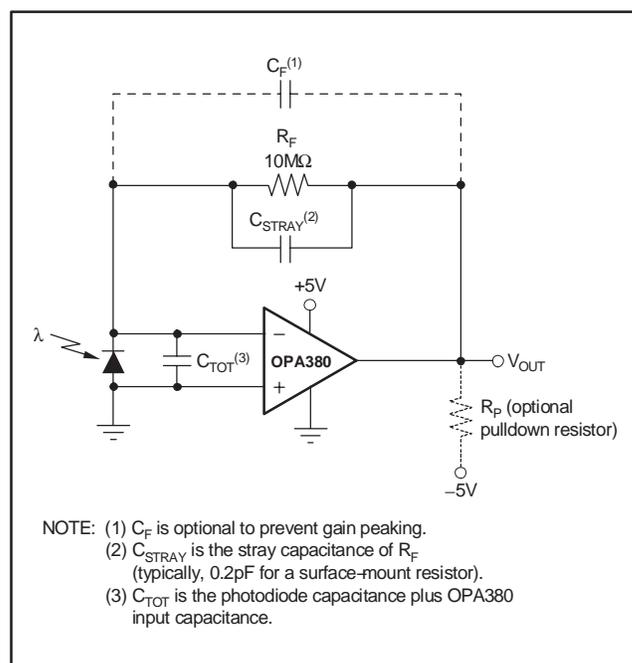

Figure 5. Transimpedance Amplifier
(1) 300-hour life test at 150°C demonstrated randomly distributed variation approximately equal to measurement repeatability of $1\mu\text{V}$.
(2) Tested with output connected only to R_P , a pulldown resistor connected between V_{OUT} and $-5V$, as shown in Figure 5. See also applications section, *Achieving Output Swing to Ground*.
The key elements to a transimpedance design are shown in Figure 5: